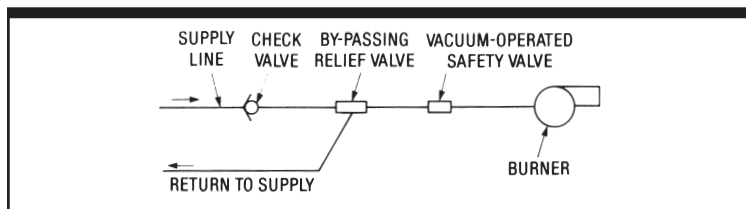

FIGURE 14 BY-PASSING RELIEF VALVE INSTALLATION
- Install relief valves in problem areas (see Figure 14).